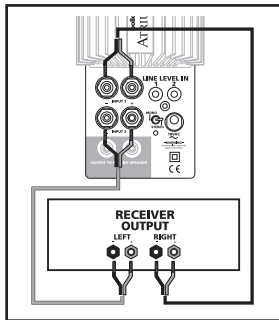

FIGURE 8
Hookup Hookup #2—Speaker Wire [figure 8]. Use this hookup method with speaker wire to remote locations, for “Multi-Room” (selectable “A” or “B” speaker-set on your electronics) applications.
- Strip 1/2 inch (12.7mm) of insulation from each of the two conductors of the wire to expose the bare metal and twist each of the conductors into a single unfrayed strand (so you have two unfrayed strands). Note that one of the terminals on the rear of the speaker is red (+) and the other is black (-). Make certain that you connect the wire from the red terminal of your amplifier or receiver to the red terminal on your speaker and the wire from the black terminal of your amplifier or receiver to the black terminal on your speaker [figure 8]. Most wire has some indicator (such as color-coding, ribbing or writing) on one of the two conductors to help you maintain consistency.
Méthode de connexion #2 [figure 8]. Utilisez du fil de h.p. pour raccorder les enceintes Atrium aux sorties h.p. «A» ou «B» de votre composant électronique (avec sélecteur multi-pièce «A/B»).
- Multi-room application using speaker wire hookup [figure 8]—we recommend setting the Atrium volume control to its maximum setting (fully clockwise).
- Application «multi-pièce» avec connexion fil de h.p. [figure 8]—il est recommandé de régler le contrôle de volume des enceintes au maximum.